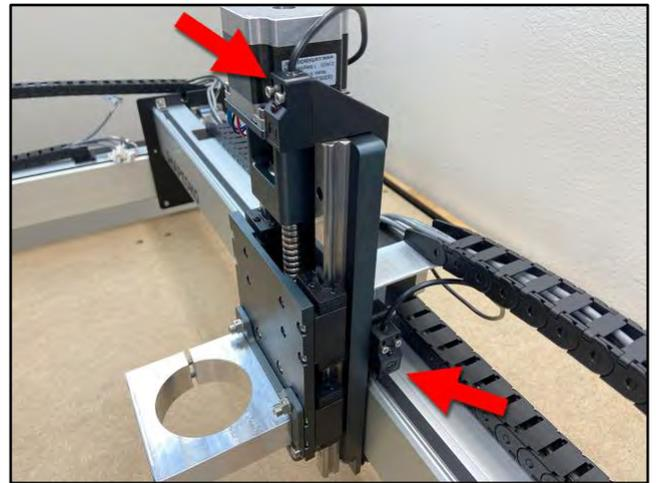

Figure 20
1. Attach the X-Axis proximity switch to the X-Axis proximity switch mount installed on the rear of the HDZ. See *Fig. 20*.
- d. Use a 2.5mm hex key and two (2) M3×18mm SHCS to secure the proximity switch.
2. Attach the Z-Axis proximity switch to the Z-Axis proximity switch mount installed at the top of the HDZ. See *Fig. 20*.
- c. Use a 2.5mm hex key and two (2) M3×18mm SHCS to secure the proximity switch.